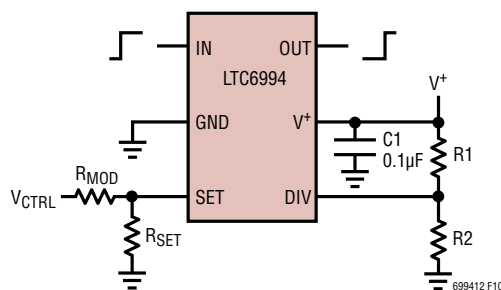
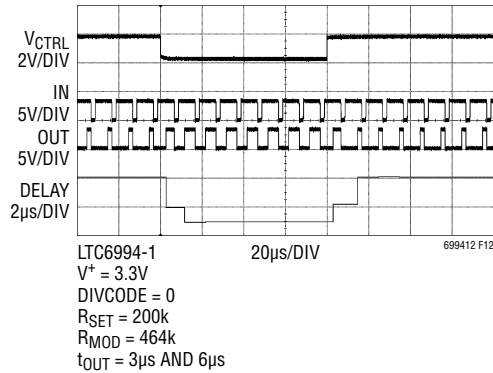

Figure 10. Voltage-Controlled Delay
Figure 12. Typical Settling Time
With one additional resistor, the LTC6994 output delay can be manipulated by an external voltage. As shown in Figure 10, voltage V_{CTRL} sources/sinks a current through R_{MOD} to vary the I_{SET} current, which in turn modulates the delay as described in Equation (3):
Following a $2\times$ or $0.5\times$ step change in I_{SET} , the output takes approximately six master clock cycles ($6 \cdot t_{MASTER}$) to settle to within 1% of the final value. An example is shown in Figure 12, using the circuit in Figure 10.